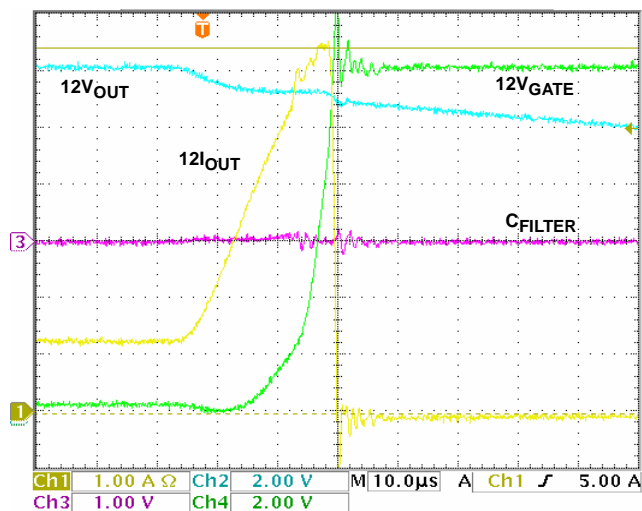

FIGURE 10. 12VMAIN WOC SHUT-DOWN
For each of the 3VMAIN and 12VMAIN supplies, the current regulated (CR) levels are set by a sub ohm value sense resistor. The value for the 12VMAIN is dependant on the size of the PCI-Express connector (X1, X4/X8 or X16) to be powered. The voltage across this resistor is compared to a 50mV internal reference providing a nominal CR protection level which would be set above the maximum specified slot limits. The 3.3VMAIN supply can use a 15mΩ sense resistor compared to a 50mV reference to provide a nominal regulated current limit of 3.3A, as this supply has a common 3A maximum across all slot sizes. For both MAIN supplies, there is a Way Overcurrent (WOC) shutdown protocol that is without a CR duration. WOC is invoked if the load current causes the RSENSE voltage to be >100mV. See Figures 10 and 11.
The ISL6112 provides a current regulation and limiting function that protects the input voltage supplies against excessive loads, including short circuits. When the current from any of a slots MAIN outputs exceeds the current limit threshold ($I_{LIM} = 50mV/R_{SENSE}$) for a duration greater than t_{FILTER} , the isolation protection is tripped and both related MAIN supplies are shut off, as shown in Figures 8 and 9. Should the load current cause a MAIN outputs V_{SENSE} to exceed V_{THFAST} , the outputs are immediately shut off with no t_{FILTER} delay, as shown in Figures 10 and 11.